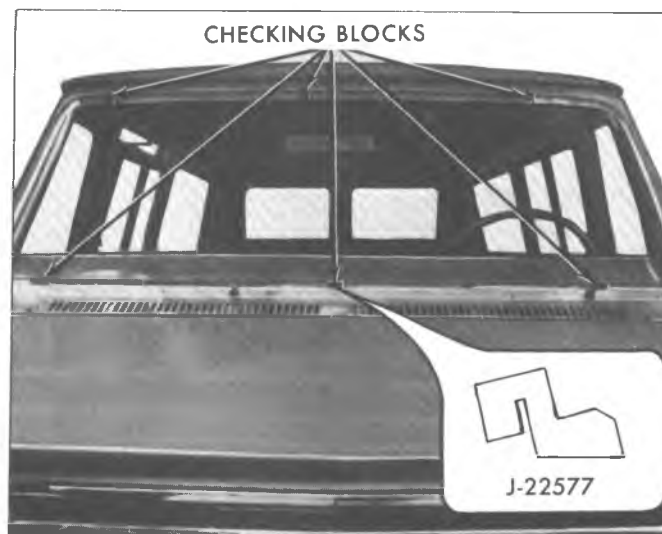

Fig. 8G—Checking Windshield Opening
4. Check windshield glass to opening, by supporting glass with six spacers contained in packet J-22577, as shown in figure 8G.
NOTE: It is necessary to modify the spacers by cutting off 3/16" from the back of the spacer with a knife, as shown in figure 8G.